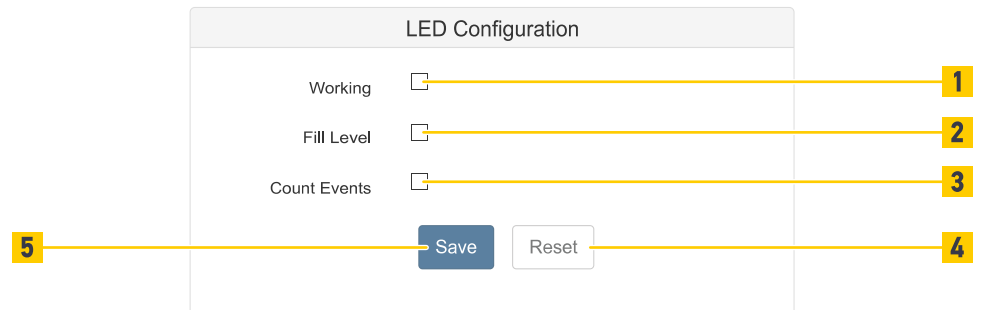

Fig. 138: LED Configuration
- To display the operation of the device activate Working (Fig. 138 /1). The LED lights up continuously green after start-up.
- To display a fill level >0 in a monitored zone activate Fill Level (Fig. 138 /2). The LED lights up continuously yellow if the fill level in a zone is greater than 0.
- To display a count event activate Count Events (Fig. 138 /3). The LED lights up blue for 1 s if a person is counted.
- To go back to the last saved settings click the Reset button (Fig. 138 /4).
- To save all the settings in the device click the Save button (Fig. 138 /5).